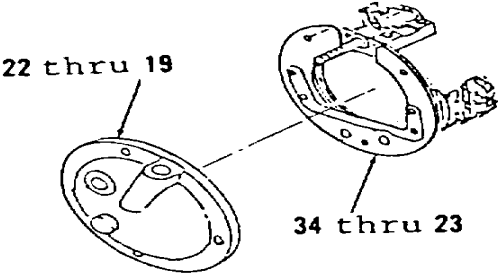

Figure 4-41.
- 29. Position items 34 thru 23 as an assembly on items 22 thru 19 as an assembly (Figure 4-41).